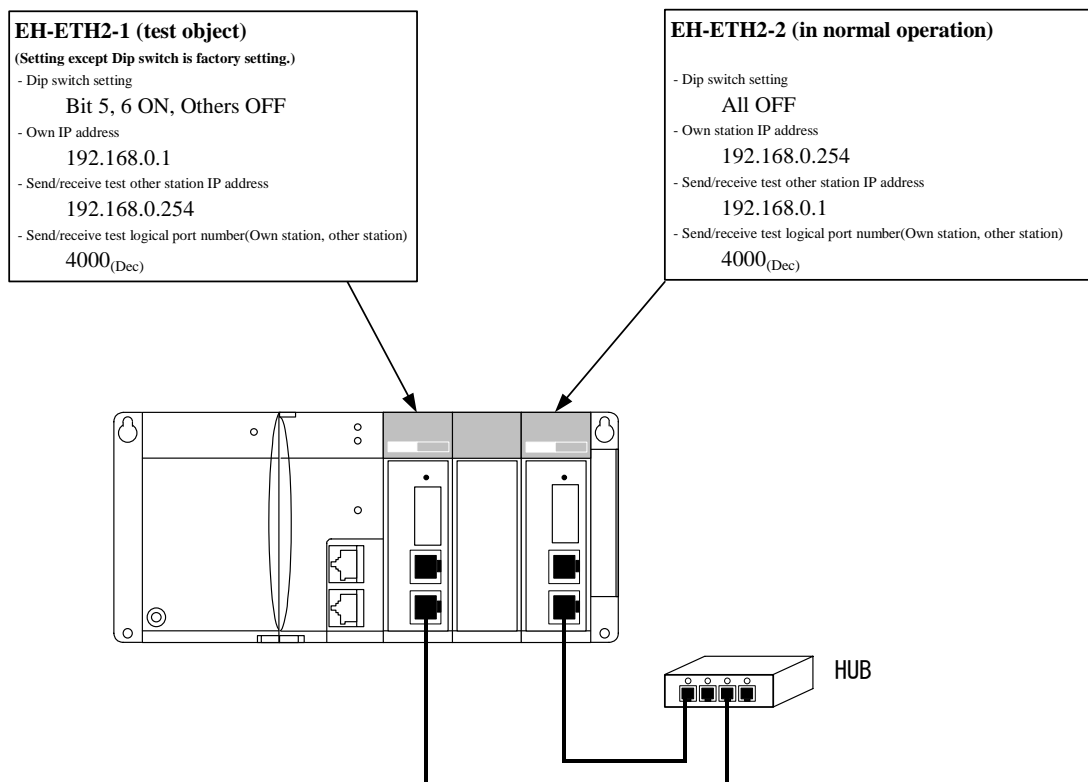

Figure 10.1 System configuration of communication test (1)
- Set communication parameter according to the Figure 10.1 as below.